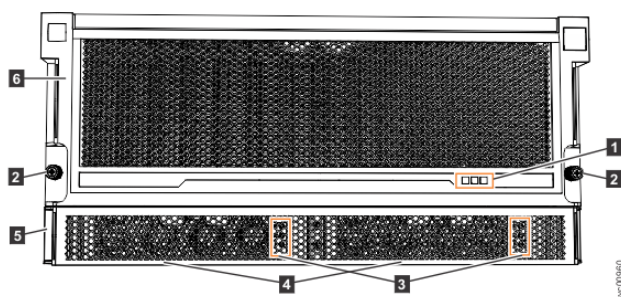
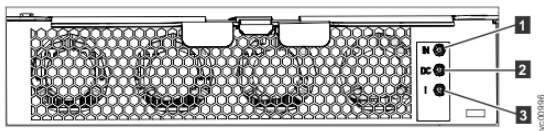

Figure 201. LEDs on the front of the expansion enclosure
Figure 202. LEDs on the front of a power supply unit
As Figure 201 on page 226 shows, the front of the 5U expansion enclosure contains LEDs for the display panel (1) and for each of the power supply units (3).
The 5U expansion enclosure contains two PSUs (4) in Figure 201 on page 226) that are accessible from the front of the enclosure. Each PSU has its own a set of LEDs, as shown in Figure 202 on page 227.